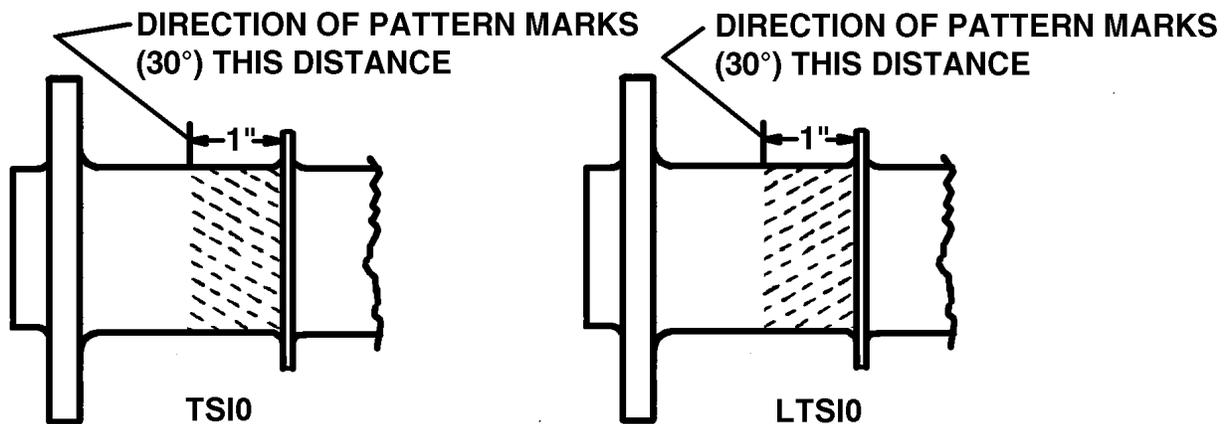

FIGURE 18-8. HELIX PATTERN APPLICATION
7. After all crankshaft repairs have been completed, use a strip of 180 grit emery cloth approximately 1/2 inch wide and apply a helix to the crankshaft as shown in Figure 18-8, "Helix Pattern Application." Apply helix to approximately 1/4 of the surface indicated at a time. The pattern is applied by stroking the cloth outward toward the propeller flange in the direction of rotation, CCW towards you using maximum hand pressure, which will result in a 30° pattern as shown. After